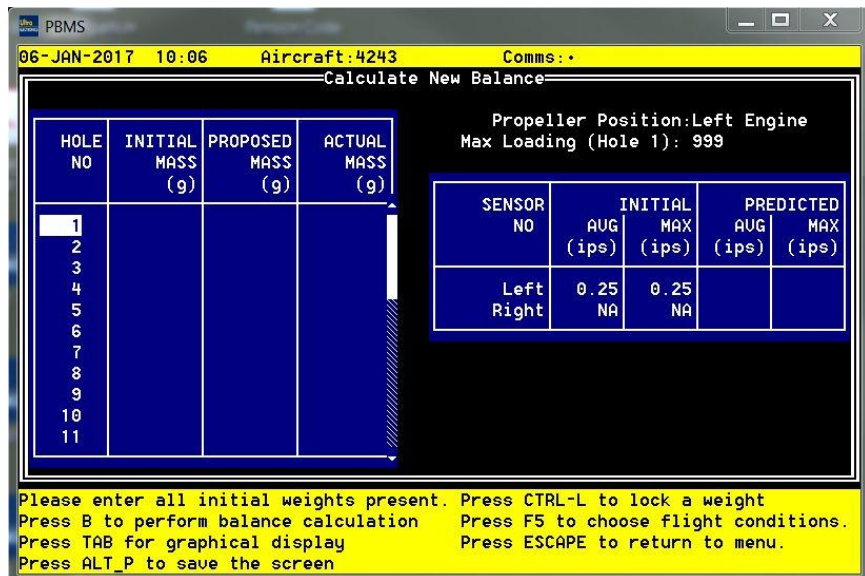

Figure 2-9 Calculate New Balance Screen
- (3) The 'Calculate New Balance' screen will be shown on the PBMS Terminal (Refer to Figure 2-9). At this point, the only data displayed on the screen are the vibration levels in the data being used to calculate the new balance.